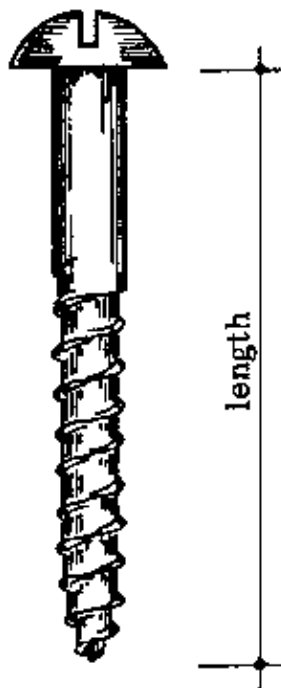

Fig. 2
- Round head screws (Fig. 2, page 210)
– ROUND HEAD SCREWS: The head of these screws is round on top and flat underneath, and the length is measured from the underside of the head to the point (Fig. 2, page 210).